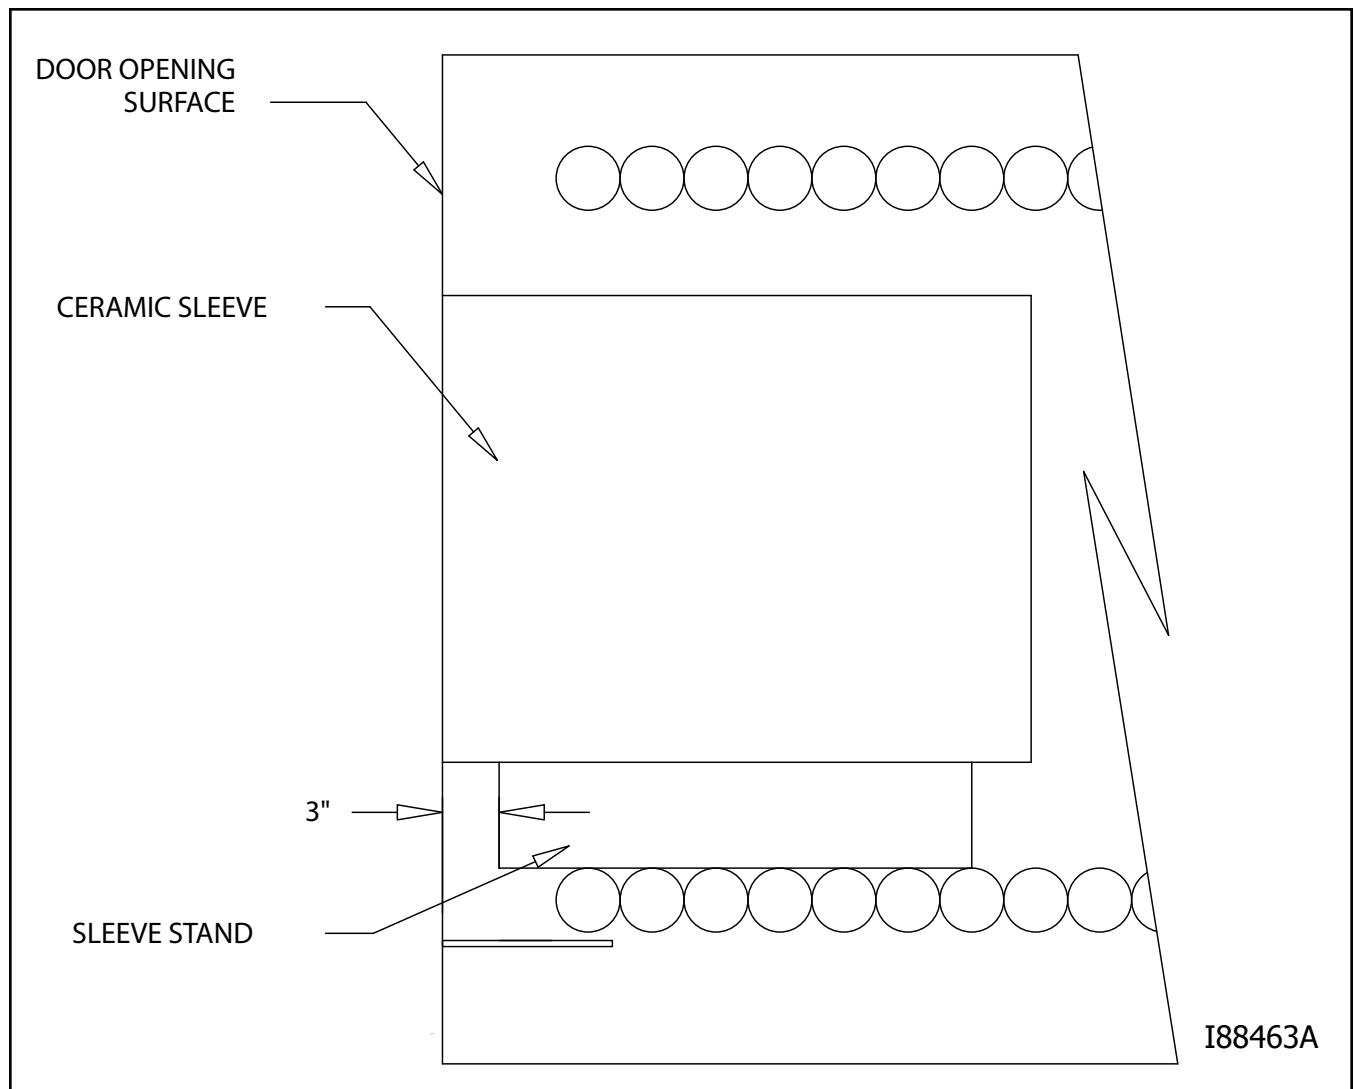

Figure 3F -Positioning of the Sleeve Stand and Ceramic Sleeve
1. Refer to Figures 3F and 3G.
3. Install the stand for the ceramic sleeve as detailed in Figure 3F. Position the stand on the coils approximately 3" in from the door opening.
5. Tighten the four (4) nuts and washers in a criss-cross pattern until all are snug.